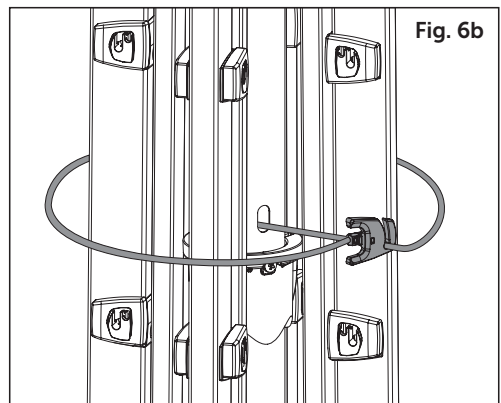

Fig. 6b
3. Clip the blue retainer back onto the retaining line to secure hoist (Fig. 6b).